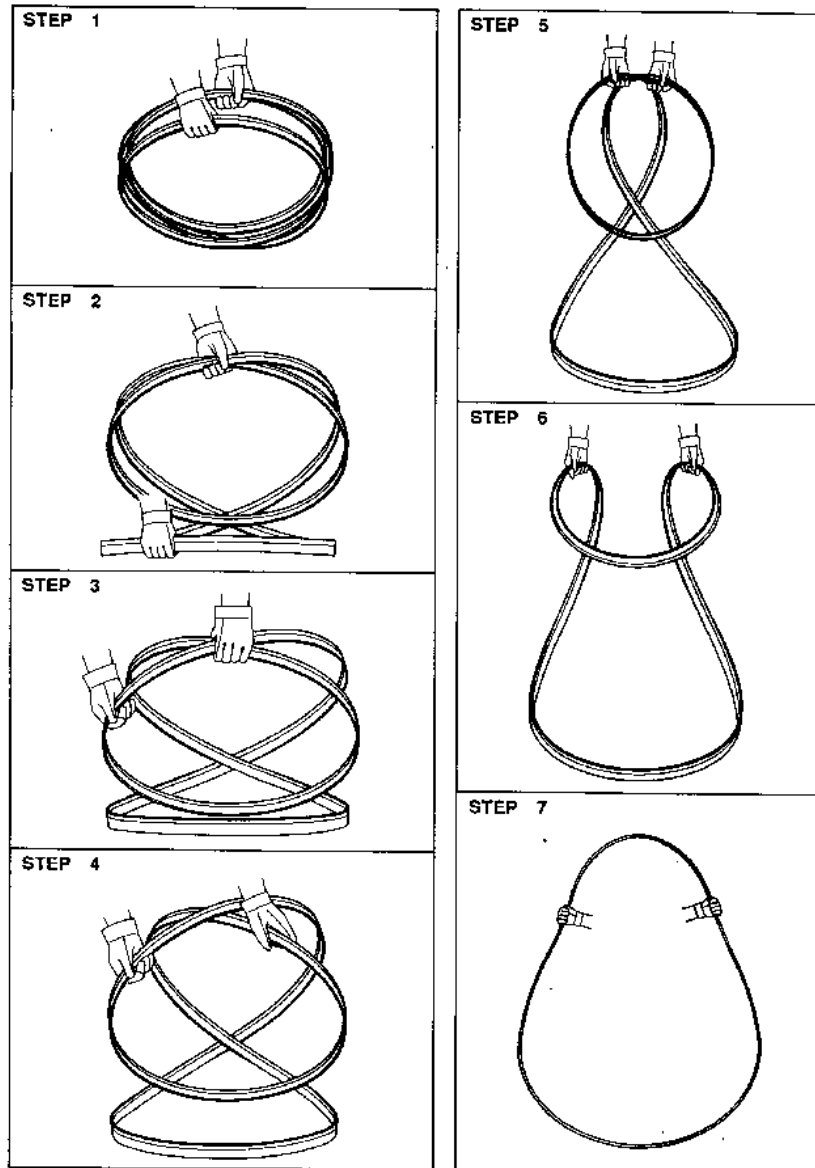

Fig 4 – 3 Unroll and roll the blade
4. Clamp the workpiece with the movable vise jaw. (Fig 4, #4)